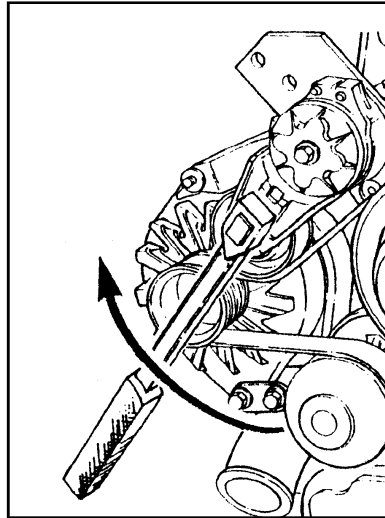
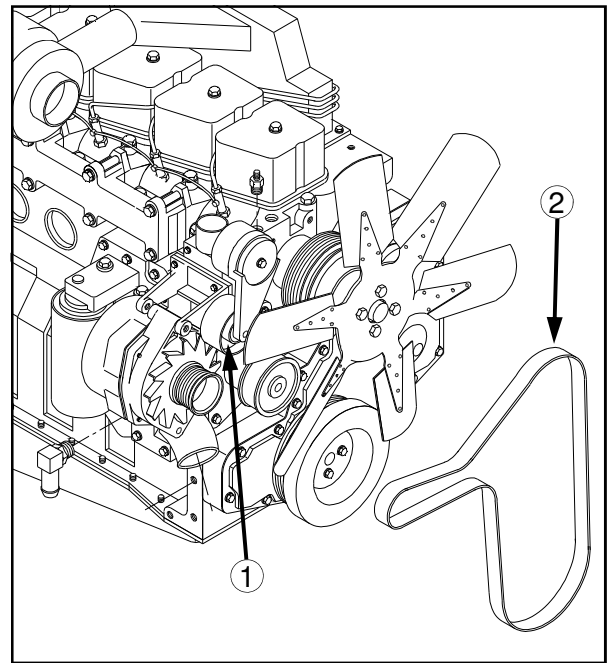

FIG 126-1
FIG 126-2
**REMOVAL**– Insert a 1/2 inch square ratchet drive (fig. 126-1) into the belt tensioner (fig. 126-2, item 1) and lift upward to remove the belt (fig. 126-2, item 2).